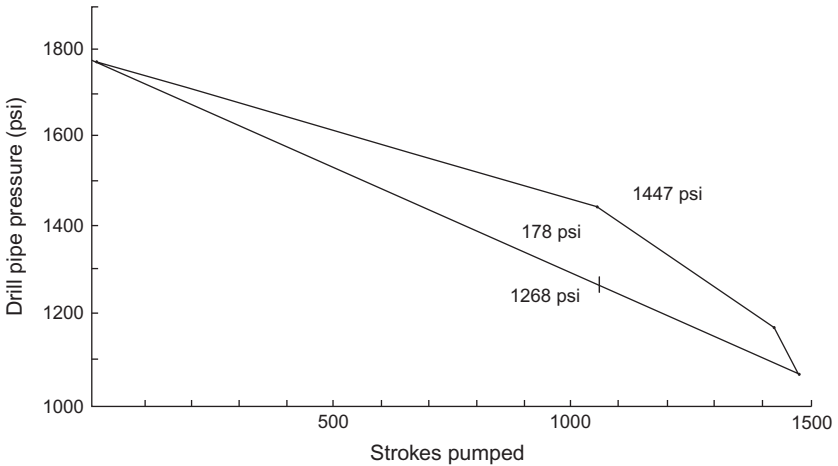

Figure 3.1 Data from kill sheet.
Step 4: Plot data on graph paper (Figure 3.1):